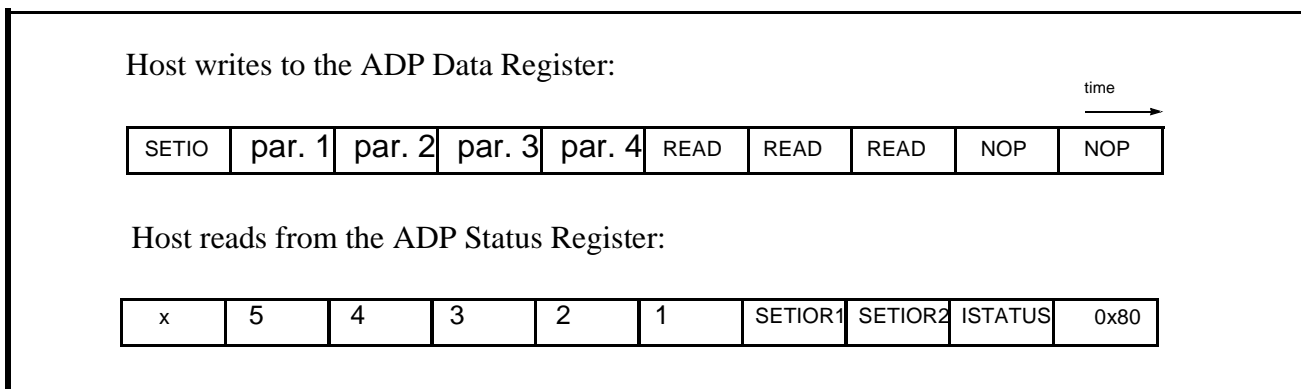

FIGURE 61. Retrieving status bytes for ADP commands that return status bytes.
- **ADP Status:** Some ADP commands (e.g. STAT) require the ADP to return data values (one or more bytes) to the ADP Status register. After decoding the ADP command, the ADP prepares the information in a buffer. To retrieve the data, multiple READ commands are issued and the ADP returns one byte for each READ command. After all response bytes are given by the ADP, the ISTATUS response is issued on the next READ command. Figure 61 gives an example (the SETIO command), which has 4 parameters bytes and 2 response bytes.
In Figure 61, SETIOR1 and SETIOR2 are the reply bytes from the ADP. The value 0x80 is returned as the ISTATUS response to an NOP command.